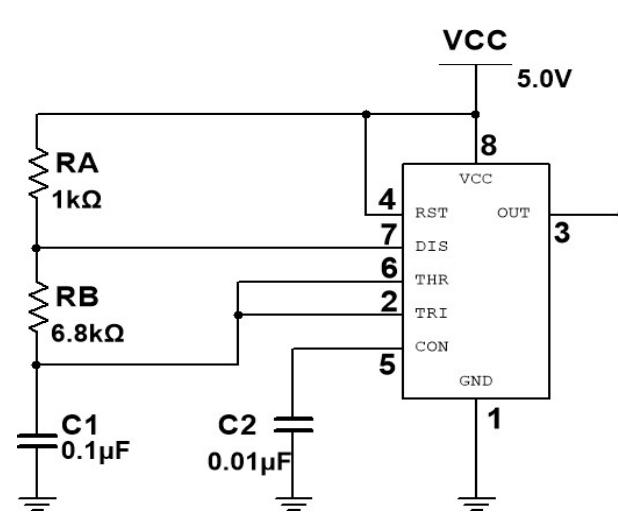
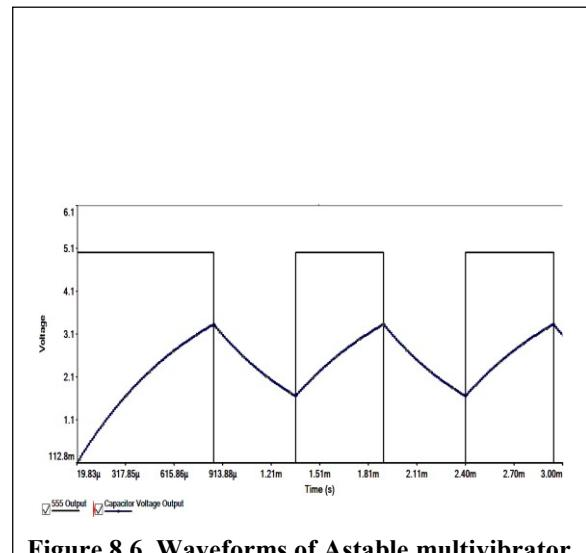

Figure 8.5. Schematic for Astable multivibrator
Figure 8.6. Waveforms of Astable multivibrator
Figure 8.5 shows the schematic of astable multivibrator using 555 timer IC. Pin 5 is bypassed to ground through a $0.01\mu F$ capacitor. The power supply V_{CC} is common to pin 4 and pin 8, and pin 1 is grounded. If the output pin is initially high, then capacitor C_1 starts charging towards V_{CC} through R_A and R_B . As soon as the voltage across the capacitor becomes equal to $(2/3)V_{CC}$, the first comparator triggers the flip-flop, and the output pin becomes low. The capacitor now starts discharging through R_B and transistor Q . When the voltage across the capacitor becomes $(1/3)V_{CC}$, the output of the second comparator triggers the flip-flop, and the output pin becomes high. The cycle then repeats. The output voltage and capacitor voltage waveforms are shown in **Figure 8.6**. The time during which the capacitor charges from $(1/3)V_{CC}$ to $(2/3)V_{CC}$ is equal to the time the output is high and is given by:
- Connect the circuit of astable multivibrator as shown in **Figure 8.5**.